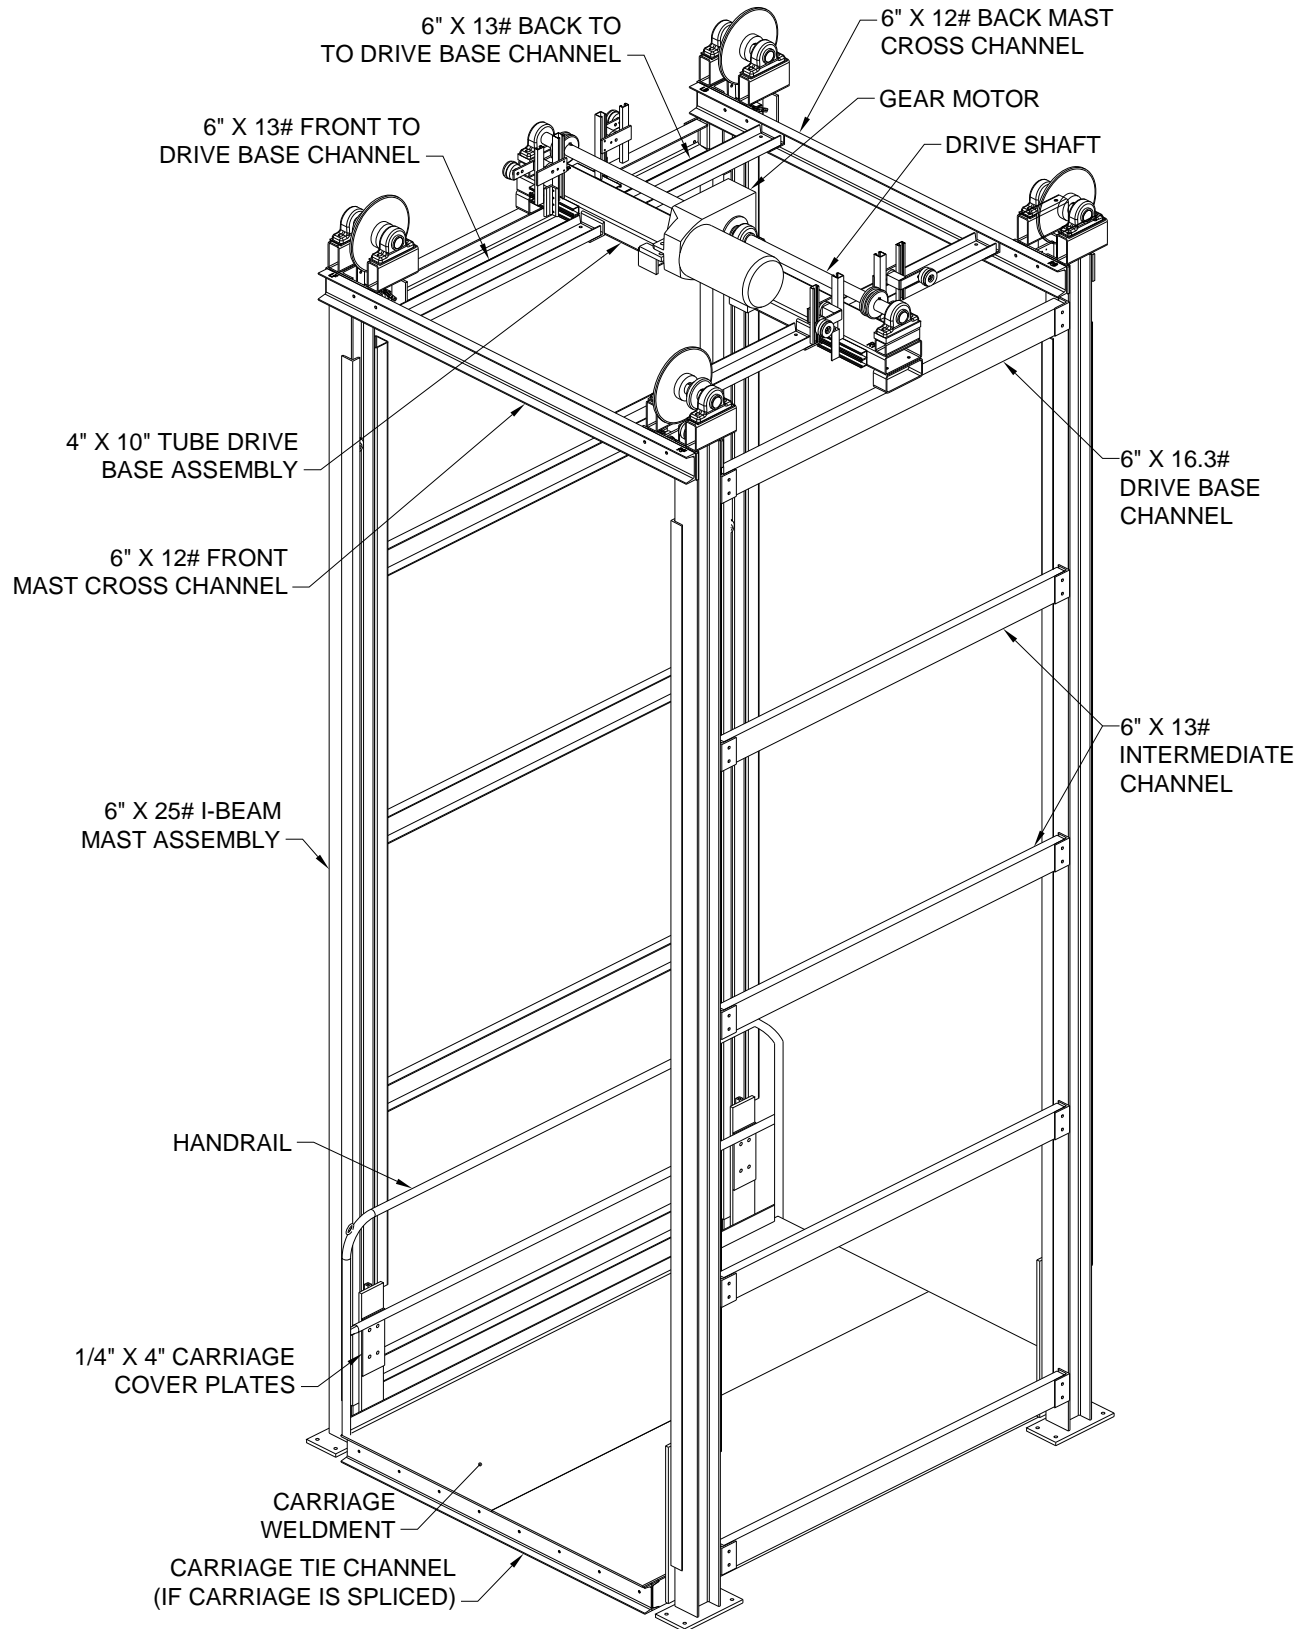
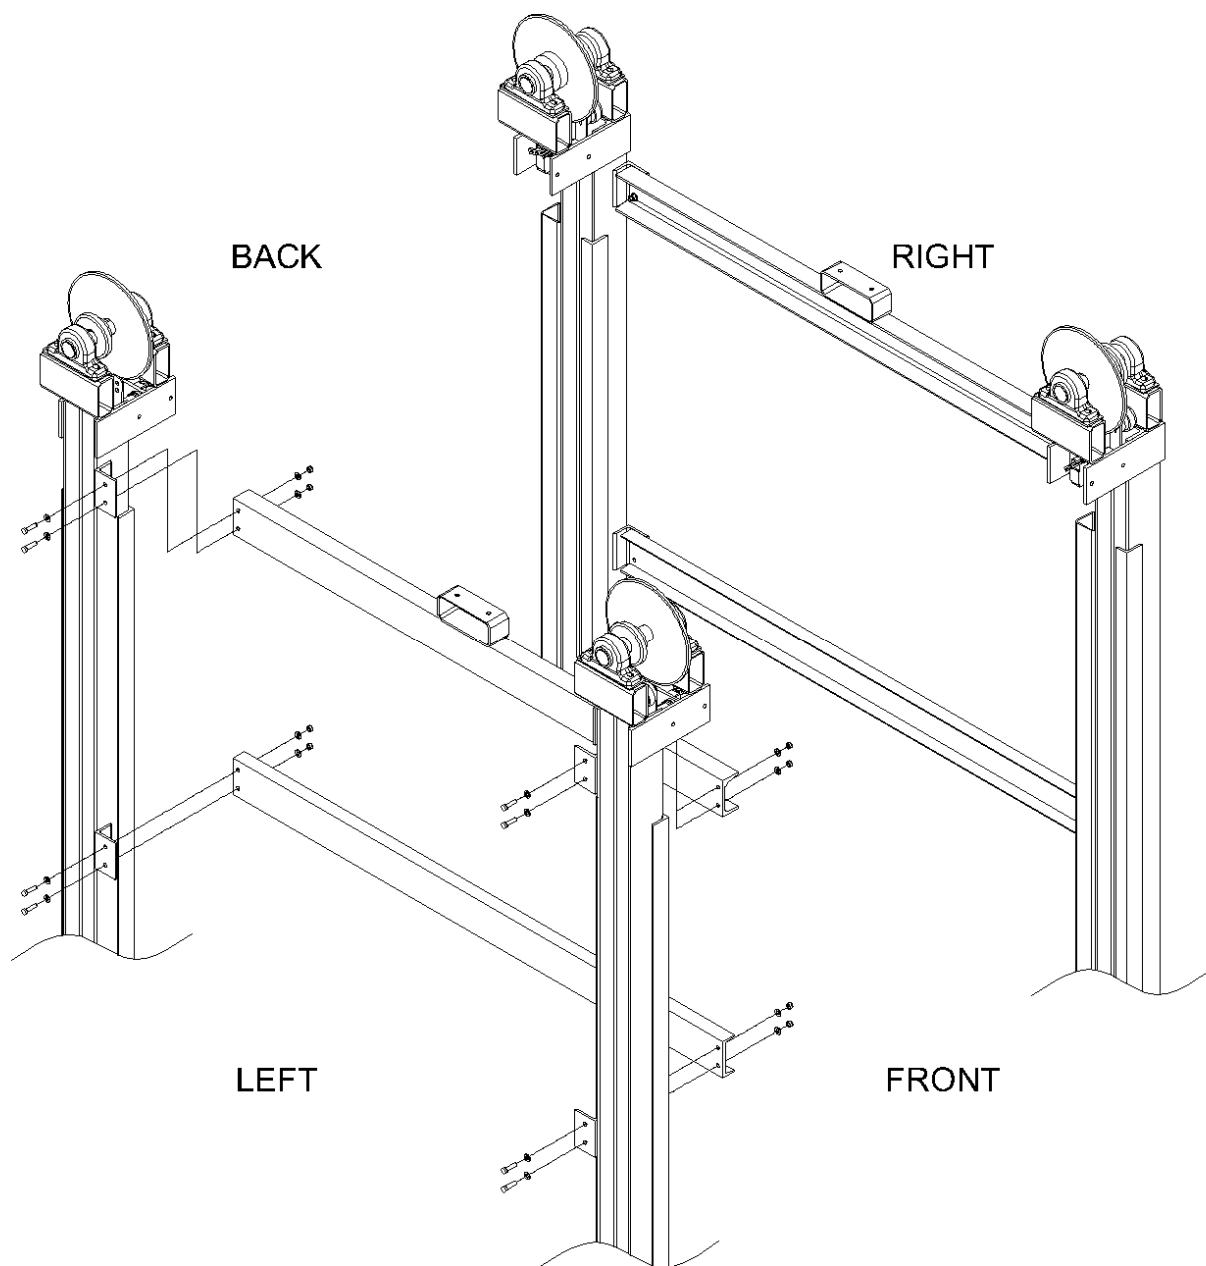

Figure 10 – Identification of Parts, FL4M
Figure 21 Attaching Intermediate & Drive Base Channels to Mast Pairs
D. RAISING THE BEAMS & WHEEL GUIDES (Reference Figures 21 through 24)
2. Using the intermediate channels and drive base channels (refer to **Figure 10**) and the high grade 1/2" x 2" lg. bolts, lock washers, and nuts provided, bolt the "RF" and "RB" masts together per **Figure 21**. Then bolt the "LF" and "LB" masts together. Remember to torque all bolts to 99 ft-lbs.